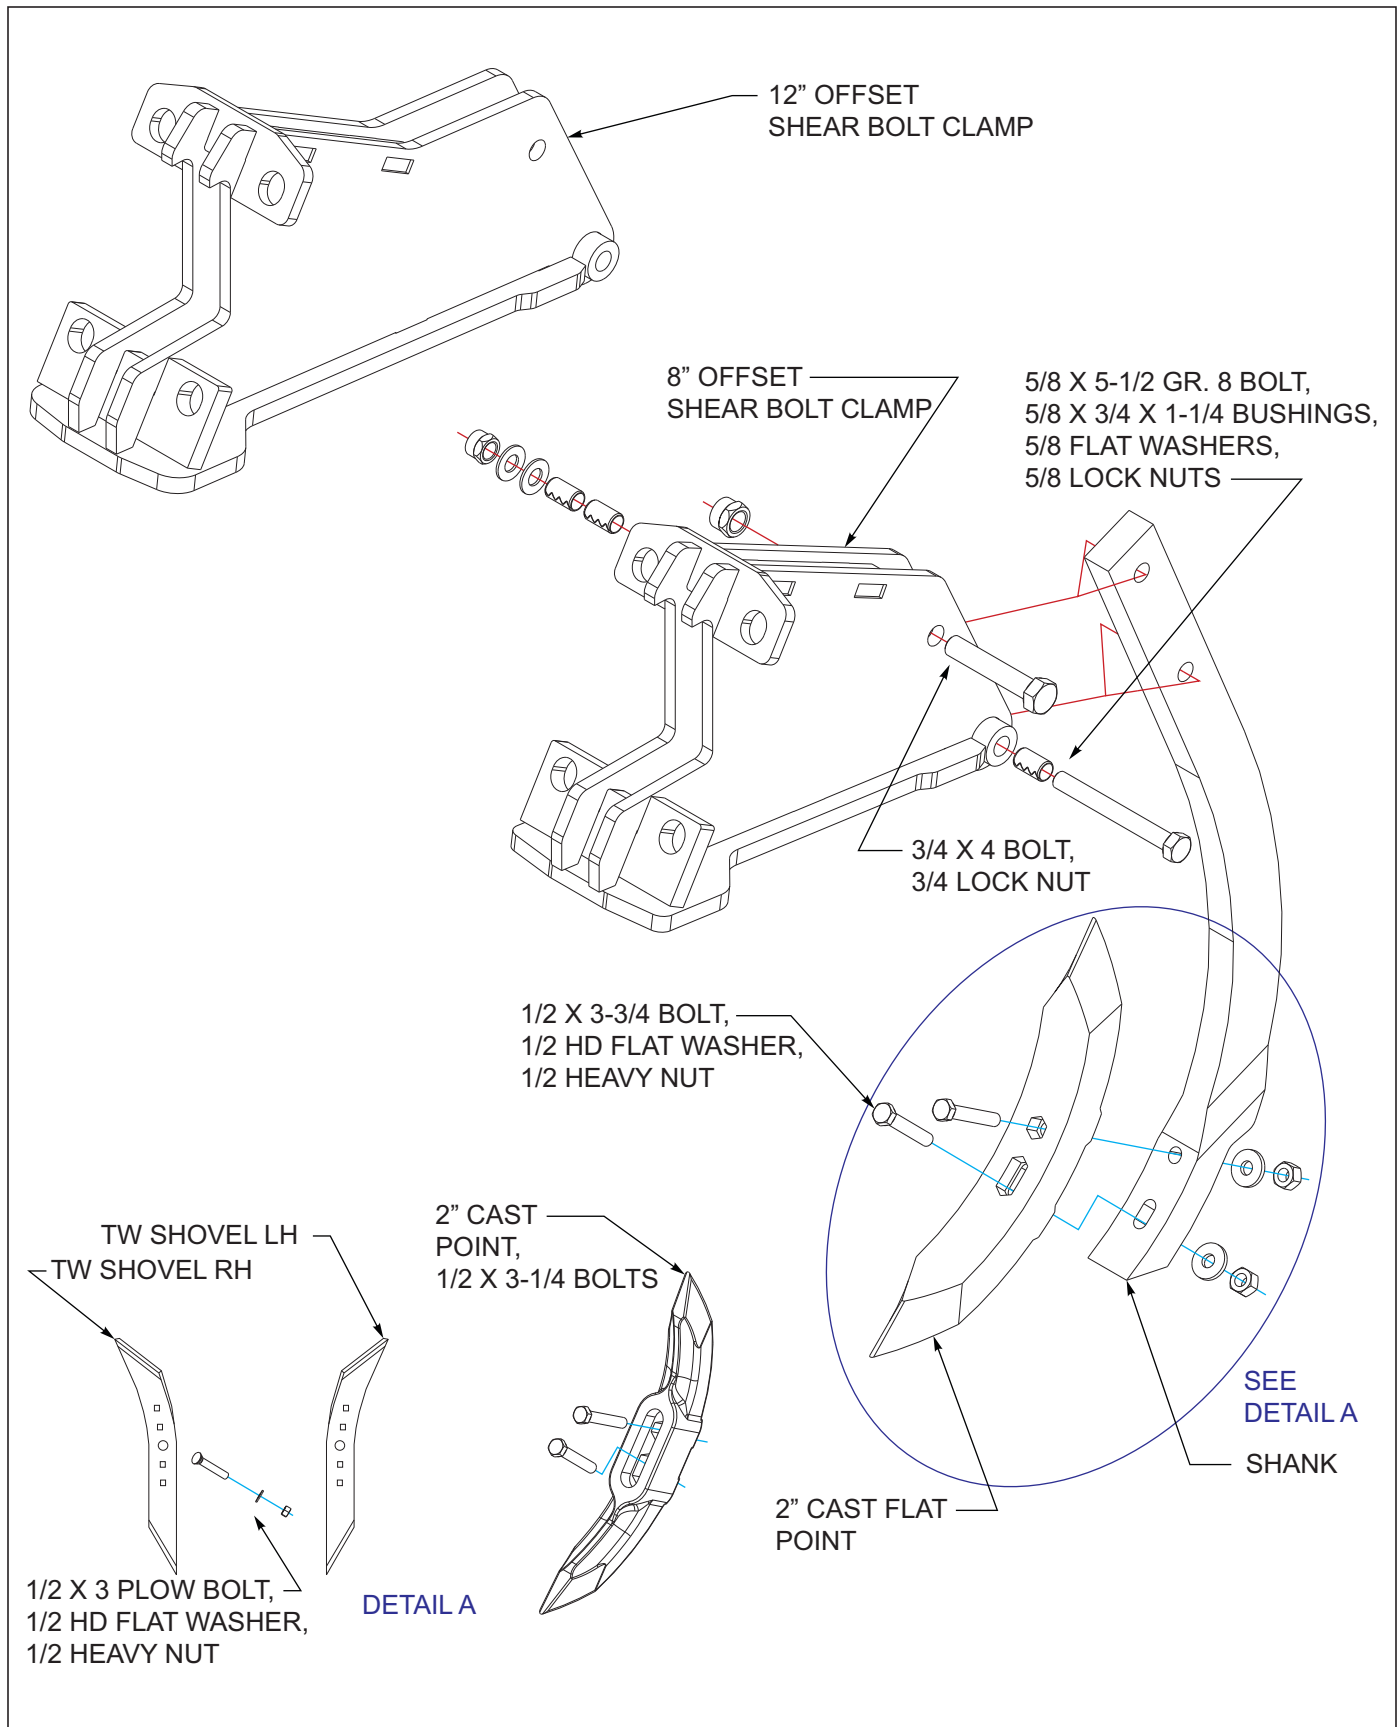

Figure 3-12: Rigid Shear Shank and Shovel Installation
1. Attach shank to each 8" or 12" offset shear bolt clamp assembly using 3/4 x 4 bolts and lock nuts in top hole, use 5/8 x 5-1/2 bolt, three 5/8 x 3/4 x 1-1/4 bushings, two 5/8 flat washers and 5/8 lock nuts *See Figures 3-12.*